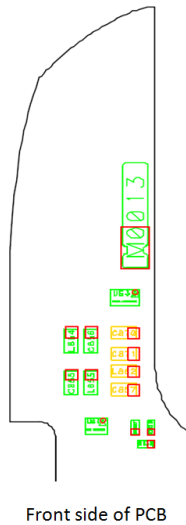

Figure 4: Bottom Ground Clip On the PCB
Step 4: If Step 3 does not resolve the problem, check if the ground clips M013 are placed on the board and making contact as shown in Figure 4.